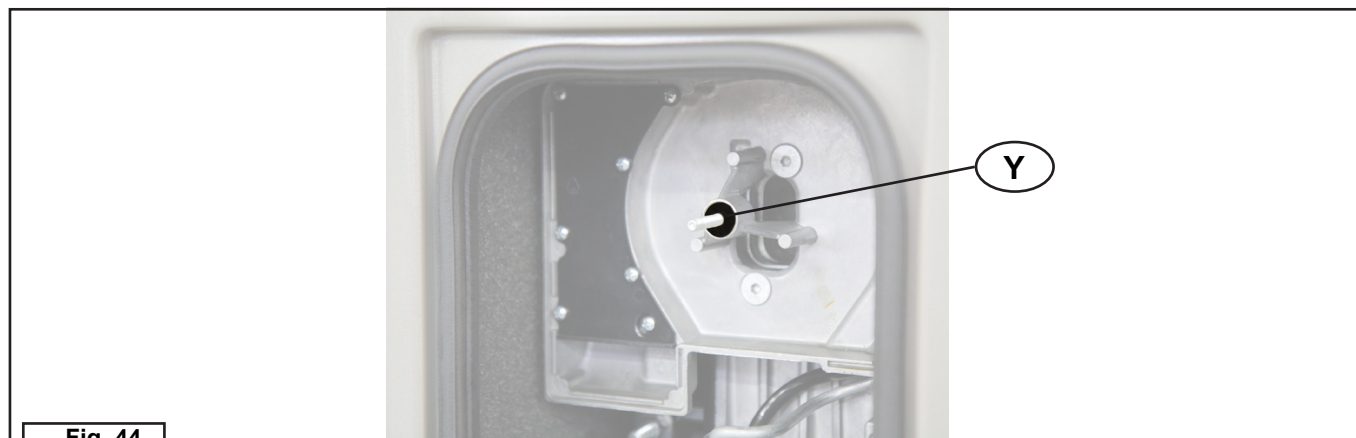

Fig. 44
22	Make sure the rubber gasket (Y) is intact, or replace if necessary (fig. 44).